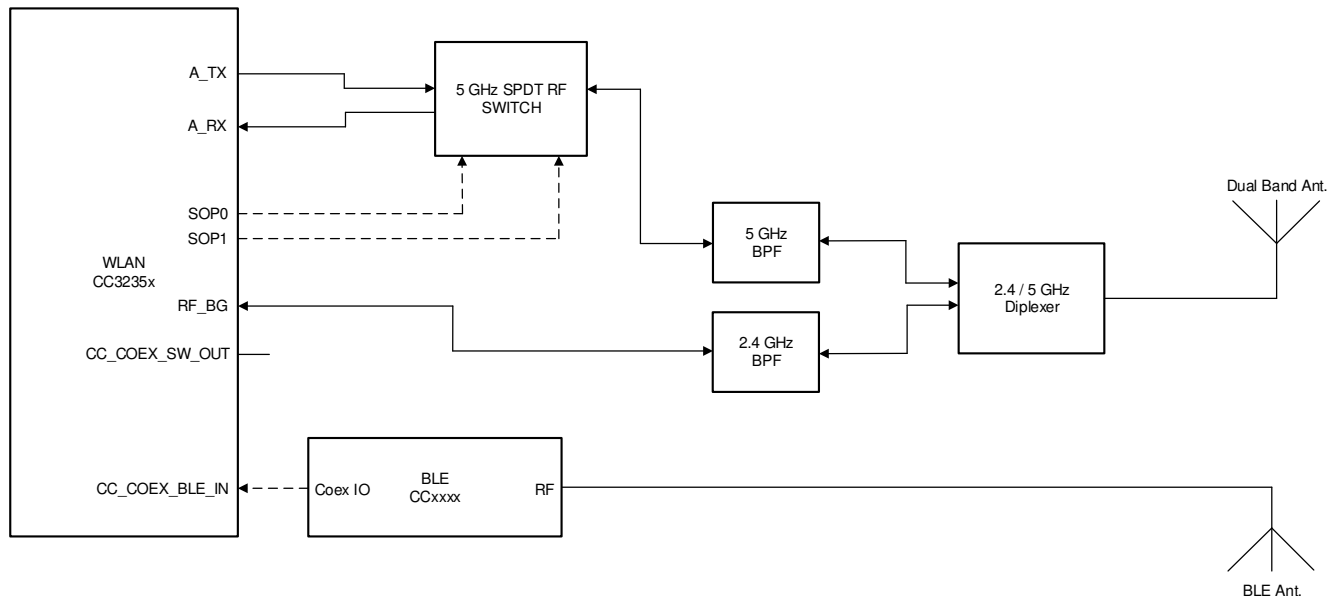

Figure 9-4. Dual Antenna Coexistence Solution with 5GHz Wi-Fi
- 5GHz Wi-Fi band (see 図 9-4)
Figure 9-4 shows the dual antenna implementation of a complete Bluetooth® low energy and WLAN coexistence network with the WLAN operating on either a 2.4- or a 5GHz band. In this case, the 2.4GHz and 5GHz Wi-Fi share an antenna and the BLE has its own dedicated antenna. The SOP lines control the 5GHz switch. Note that in this implementation, no Coex switch is required and only a single GPIO from the BLE device to the CC3235x device is required.